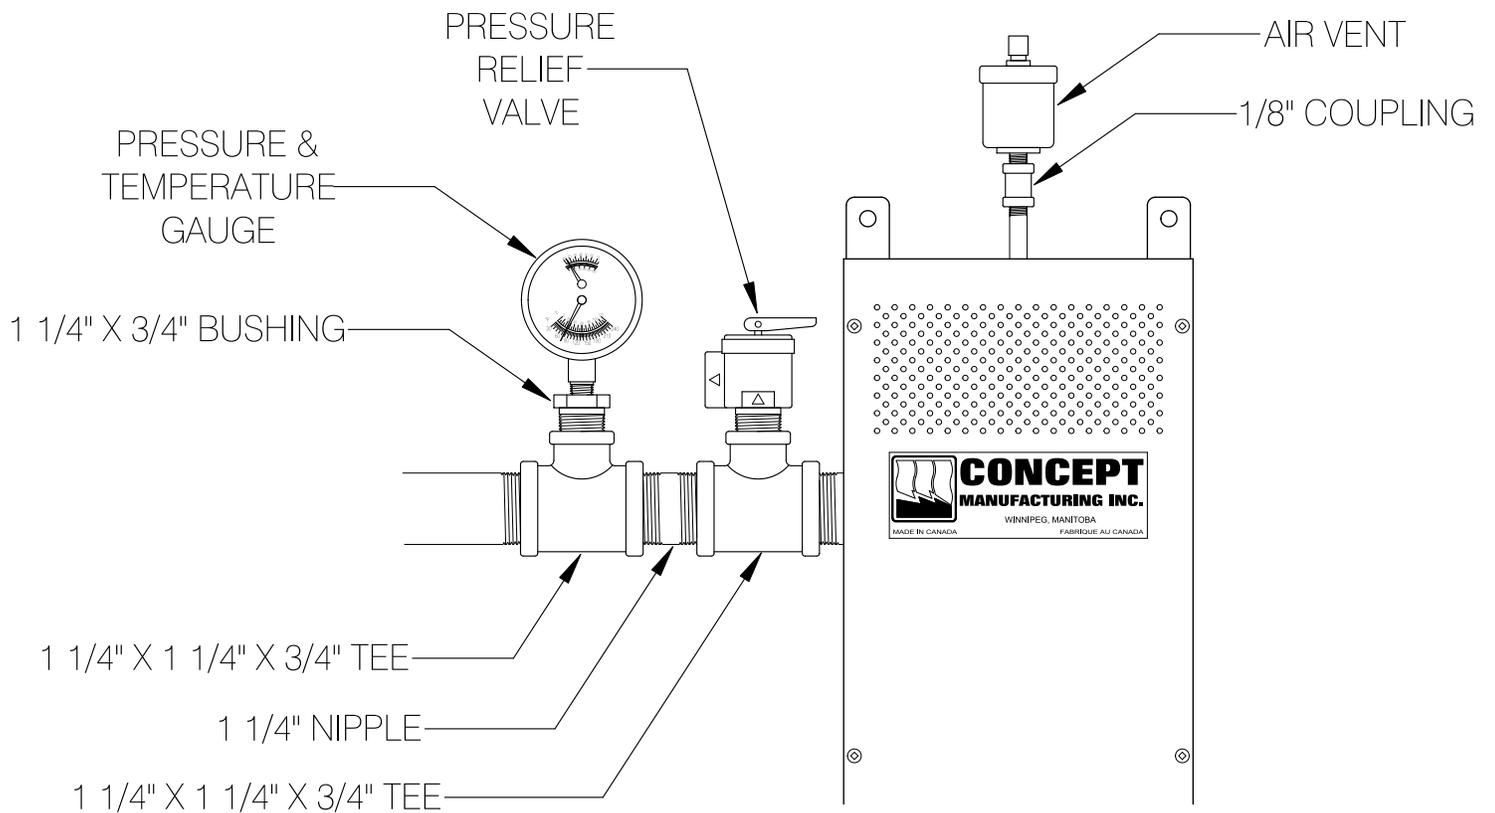
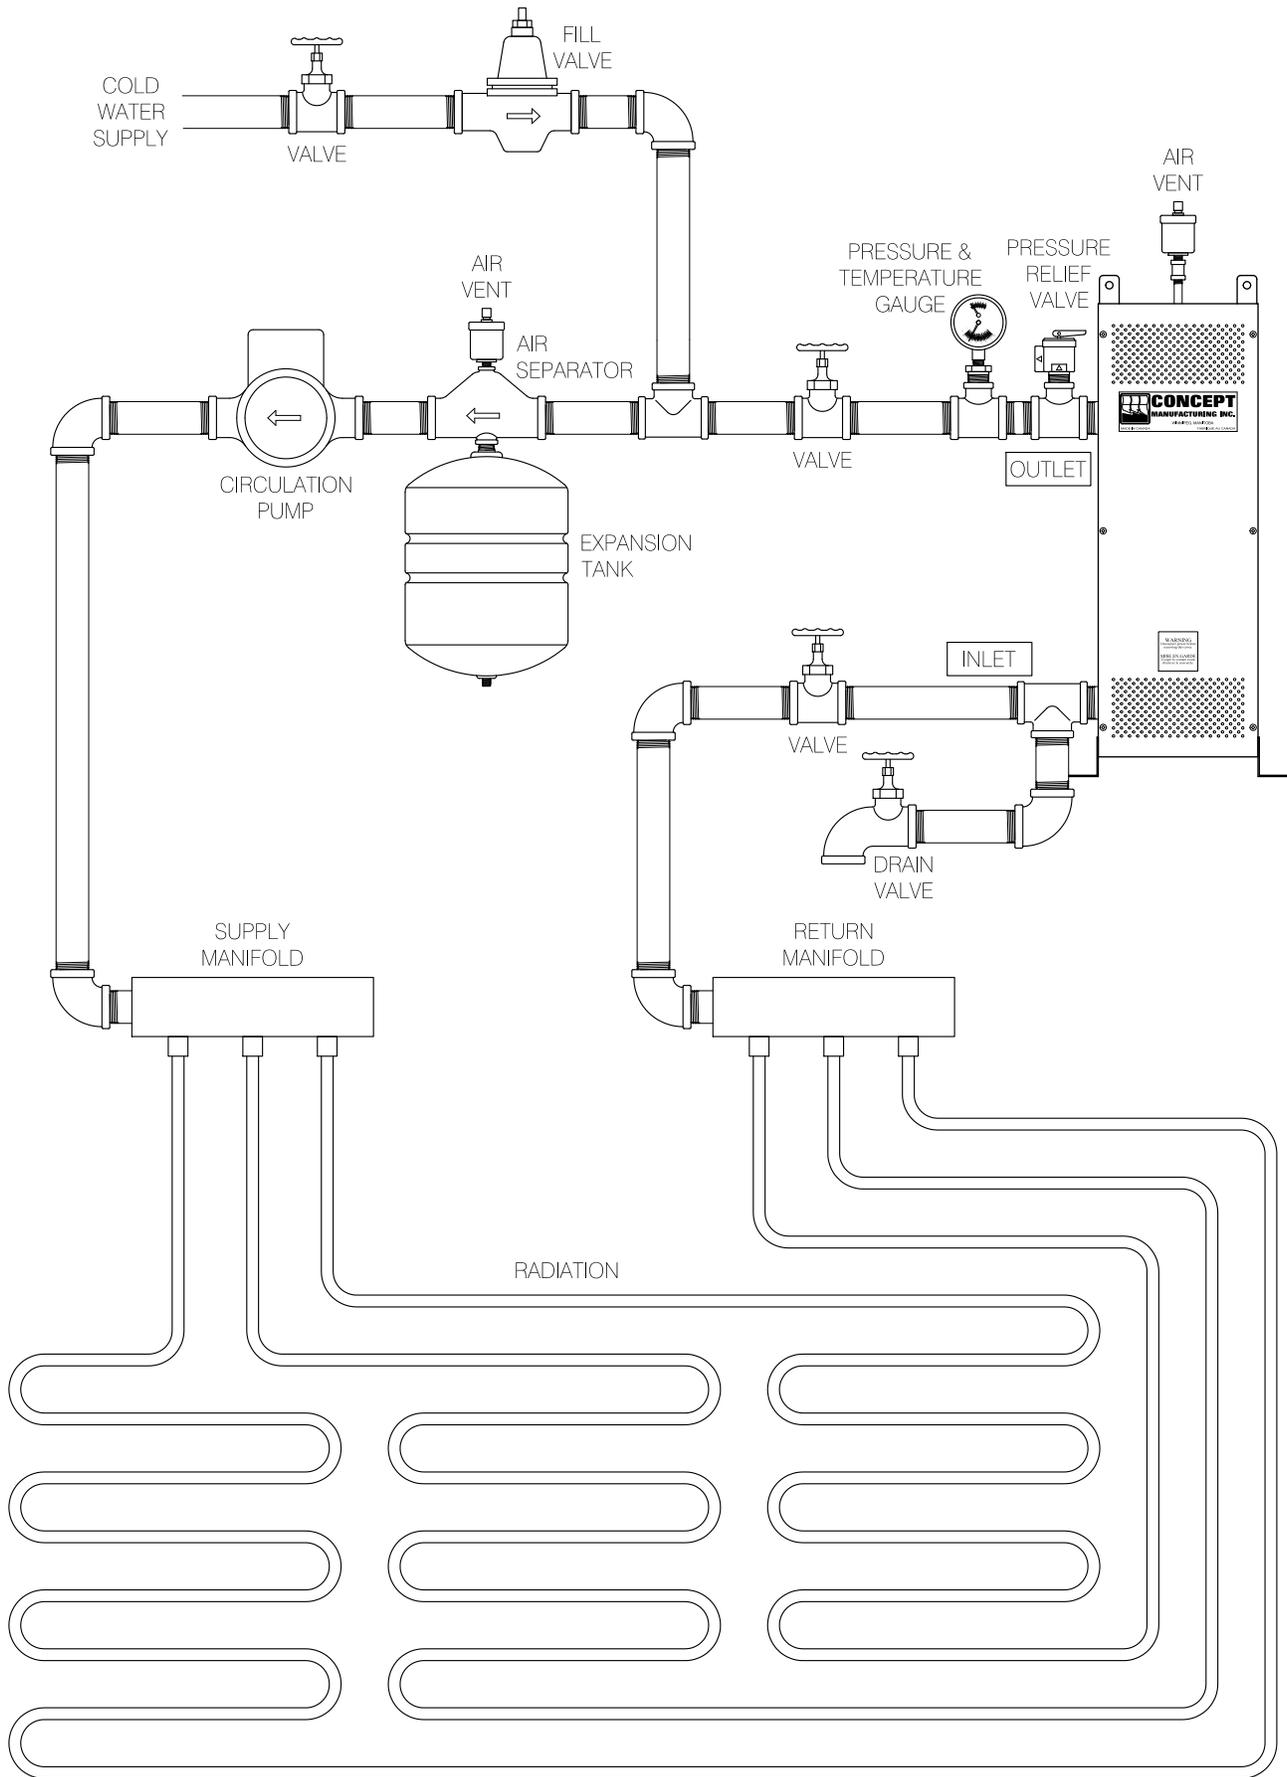

FIG. 1 BOILER COMPONENTS
FIG. 3 TYPICAL HEATING SYSTEM
- (6) The circulation pump should be connected to the outlet side of the boiler (see Fig. 3).
- (1) Refer to Fig. 3 for a typical system before installation.
- (2) Packed with your boiler are the following.
- (3) Mount unit as per instructions under "Location"
- (4) Install Pressure Relief Valve and Pressure & Temperature Gauge. These must be connected directly to the boiler as shown in Fig. 1
- (5) A discharge line must be attached to the outlet of the pressure relief valve. The discharge line will direct water or steam from the pressure relief valve should it open. The discharge line must be as short as possible, not have any valves or restrictions, not be smaller than the outlet of the pressure relief valve, slope downwards, and the end must be open to the atmosphere. The discharge line should terminate at a drain 6 inches above the floor level.
- (6) Install inlet and outlet piping.
- (7) An expansion tank must be installed (see Fig. 3) to allow for water expansion as the system is heated.
The circulation pump should be positioned as close to the boiler as possible, with the delivery arranged to pump out of the tank outlet on the upper left side of the boiler (see Fig. 3)